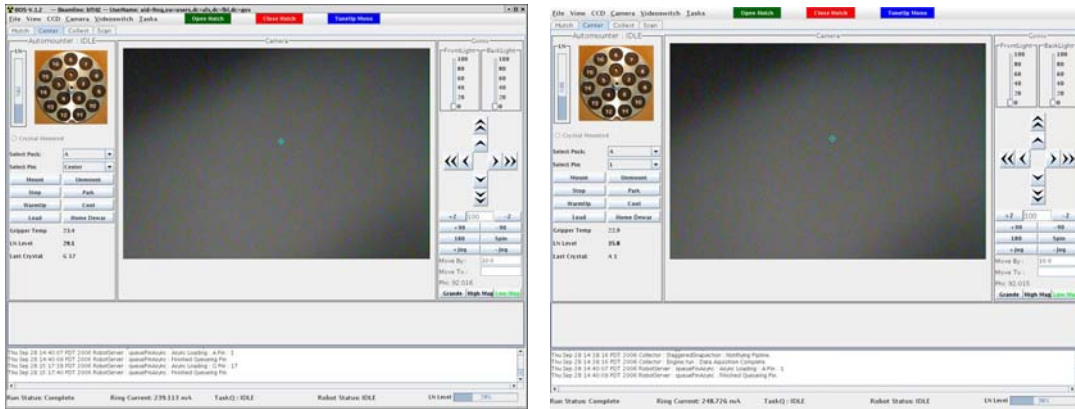
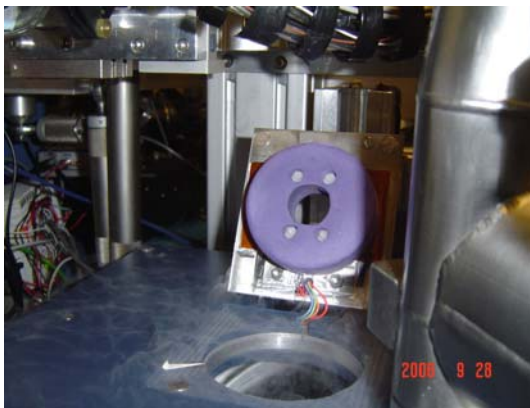
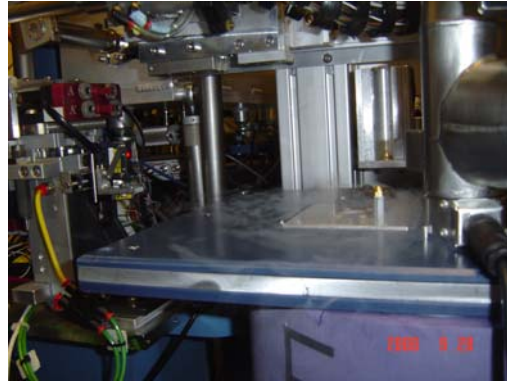

Fig.2 BOS gui, CENTER page, puck A centering (left), positioning on pin 1 (right)
Fig.3 Open Small Lid
Fig. 6 Closed lid after loading pucks.
- prepare the robot dewar for puck loading at a given aligned robot location (positions A-F), by clicking from BOS interface CENTER page, first **“Load”**, than for example ‘Select Puck’ **“A”**, ‘Select Pin’ **“center”** (Fig. 2). Once the interface shows you that the chosen position was reached, enter the hutch and open the small lid of the robot dewar (Fig.3) in order to start loading.
- In case you are done, close the small lid (Fig. 6) and start your screening by choosing for example the puck “A” location and pin 1 from “Select Pin” scroll bar in BOS gui (Fig. 2 right). Follow up with BOS manual for screening with **WebIce**.